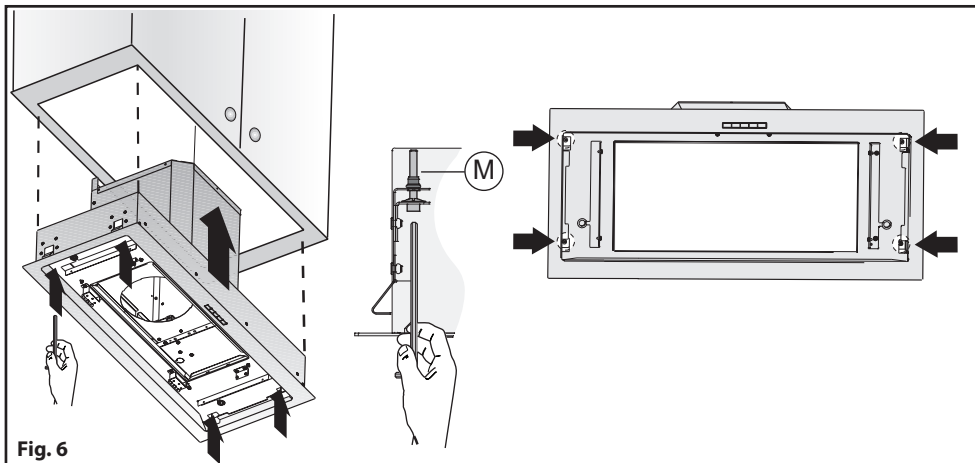

Fig. 6
3. Make sure the thickness of the cabinet falls within the range of values listed in **Fig.5C**. Fit the rangehood in the cabinet (**Fig.6**) and make sure the 4 springs are fixed in place well. Fix the rangehood to the cabinet securely by using a screwdriver to tighten the screws **M** until the appliance is flush with the cabinet (**Fig.6**).